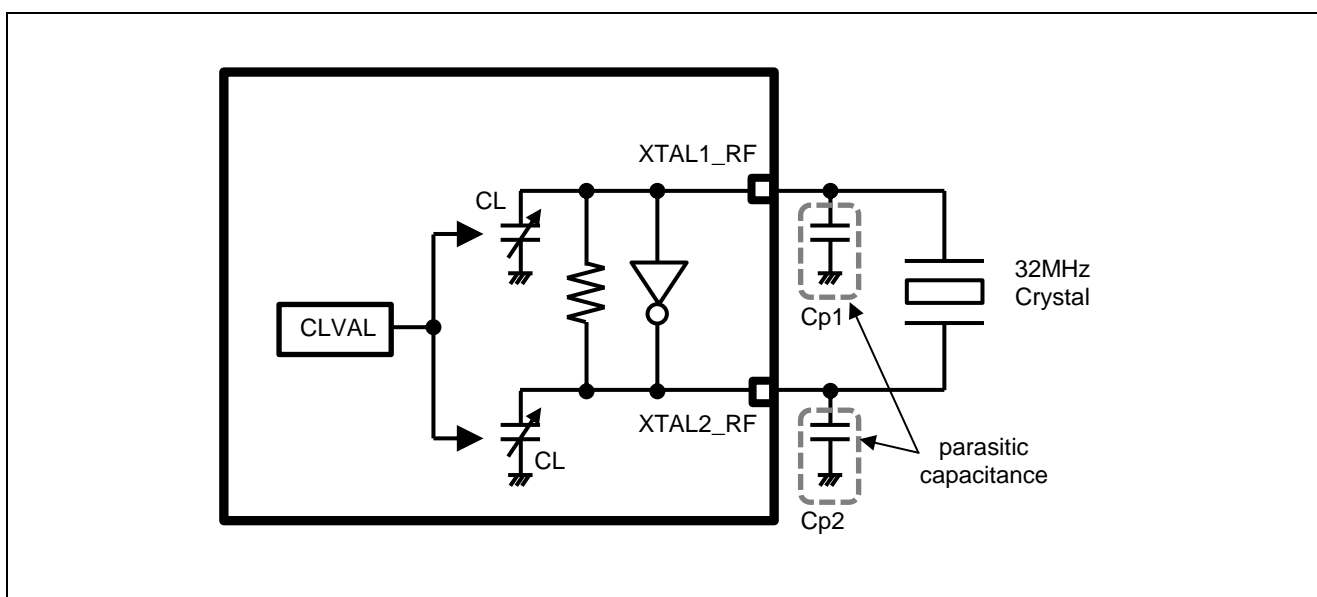

Figure 2-1. Circuitry of Bluetooth dedicated clock oscillator.
Figure 2-1 shows circuitry of Bluetooth dedicated clock oscillator. The oscillator has two load capacitors (CL) internally for the tuning of an oscillation frequency of Bluetooth dedicated clock. The internal capacitors are connected to terminals XTAL1_RF and XTAL2_RF respectively. The capacitance of CL can be adjusted in the range of Table 2-1. The oscillation frequency error can be minimized with the appropriate capacitor setting (CLVAL).